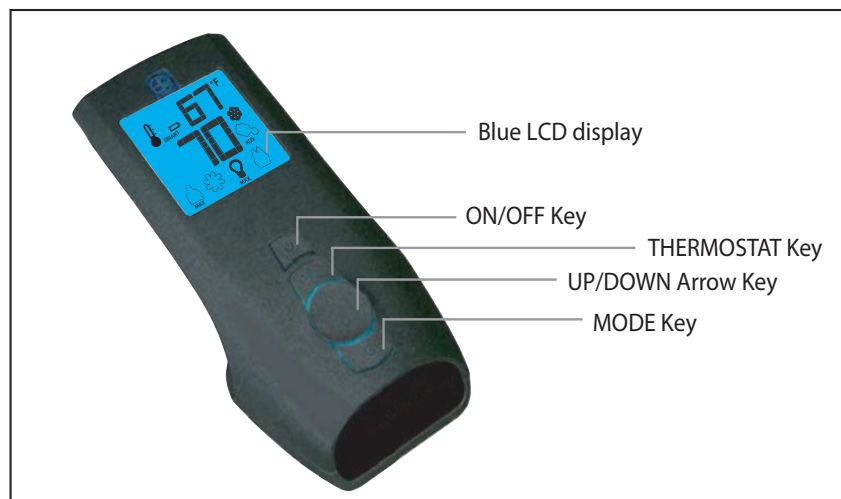
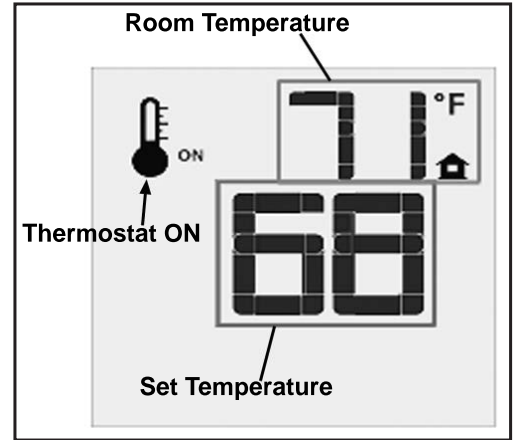
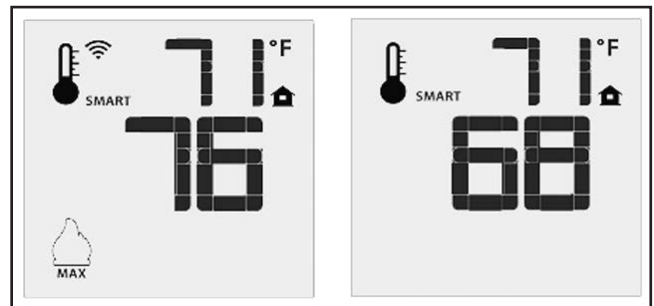
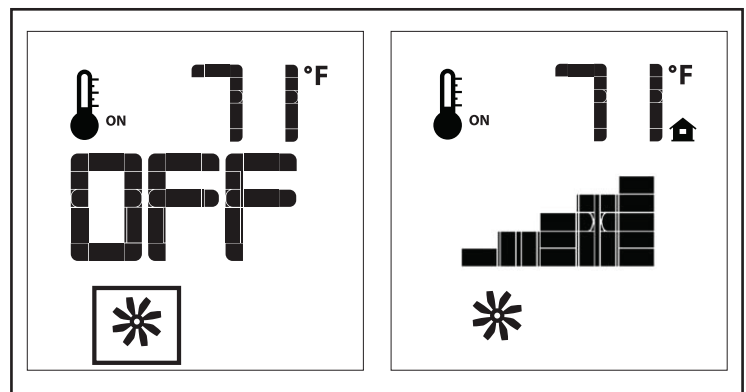

Figure 5: Proflame 2 Transmitter.
Figure 10: Remote Control Displays Set Temperature.
Figure 11: Remote Control's Smart Flame Function.
Figure 14: Fan Control
The Proflame 2 Transmitter is a black remote control with a blue backlit LCD display. It uses a streamline design with a simple button layout and informative LCD readout (Figure 5). The Transmitter is powered by three (3) AAA type batteries. A Mode Key is provided to Index between the features and a Thermostat Key is used to turn on/off or index through Thermostat functions (Figure 5 & 6)
The Remote Control can operate as a room thermostat. The thermostat can be set to a desired temperature to control the comfort level in a room. To activate this function, press the Thermostat Key (see Figure 5). The LCD display on the Transmitter will change to show that the room thermostat is “ON” and the set temperature is now displayed (see Figure 10). To adjust the set temperature, press the Up or Down Arrow Keys until the desired set temperature is displayed on the LCD screen of the Transmitter.
The Smart Thermostat function adjusts the flame height in accordance to the difference between the set point temperature and the actual room temperatures. As the room temperature gets closer to the set point the Smart Function will modulate the flame down. To activate this function, press the Thermostat Key (Figure 5) until the word “SMART” appears to the right of the temperature bulb graphic (Figure 11). To adjust the set temperature, press the Up or Down Arrow Keys until the desired set temperature is displayed on the LCD screen of the Transmitter.
The Berkeley comes with a convection fan that can be controlled with the Transmitter. The fan speed can be adjusted through six (6) speeds. To control the fan press the Mode key (Figure 5) to index to the fan control icon (Figure 14). Use the UP/DOWN arrow keys to turn on, off, or adjust the fan speed (Figure 14). A single beep from the IFC will confirm the command has been received